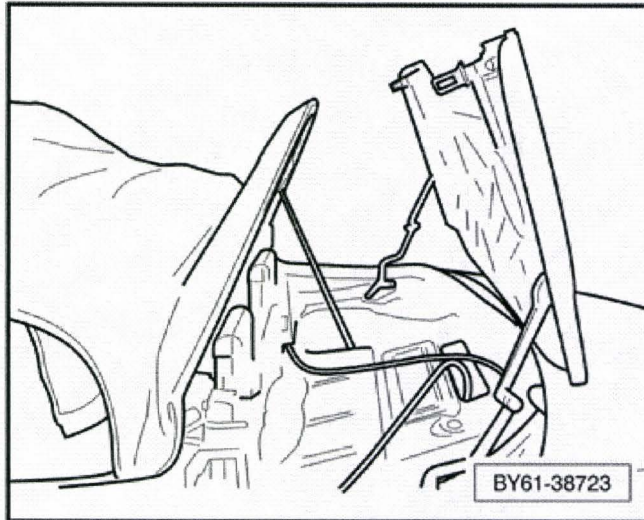

Figure 6
**Note:** To carry out the following procedures, the power operated roof assembly will have to be positioned partially open in a transient state. With the ignition on any transient roof position will only be maintained for 10 minutes after which a warning will sound prior to the roof assembly gradually folding down as the hydraulic pressure decays. Therefore consideration should be given to supporting the roof system during the following procedure (see Figure 6)
6. With the tonneau cover still held in the vertical position, support the tension bow with a suitable prop taking care not to damage any trim (see figure 6)